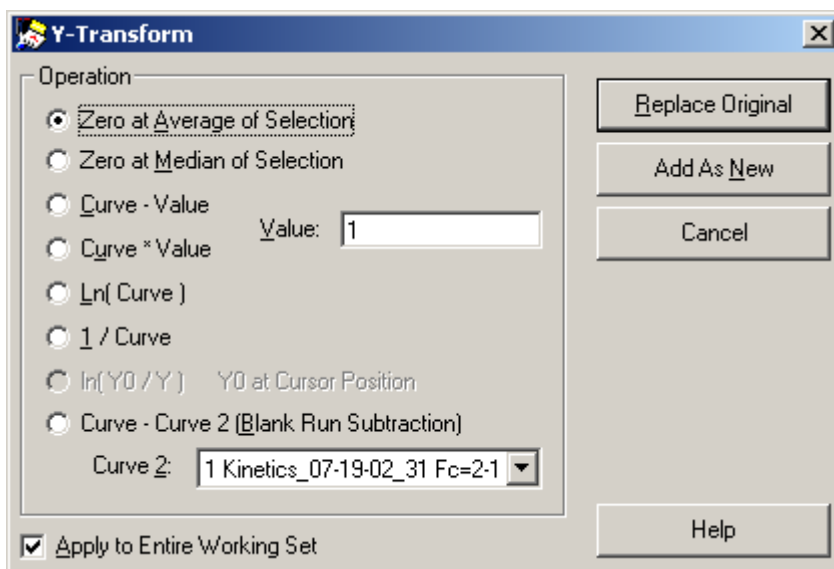

Figure 6.7
- 6.16 Y-transform window will open (Fig. 6.7).
- 6.17 Select 'Zero at Average of Selection' (Fig. 6.7).
- 6.21 Select Sensorgram for the Blank run (Curve 2 in Fig 6.7).